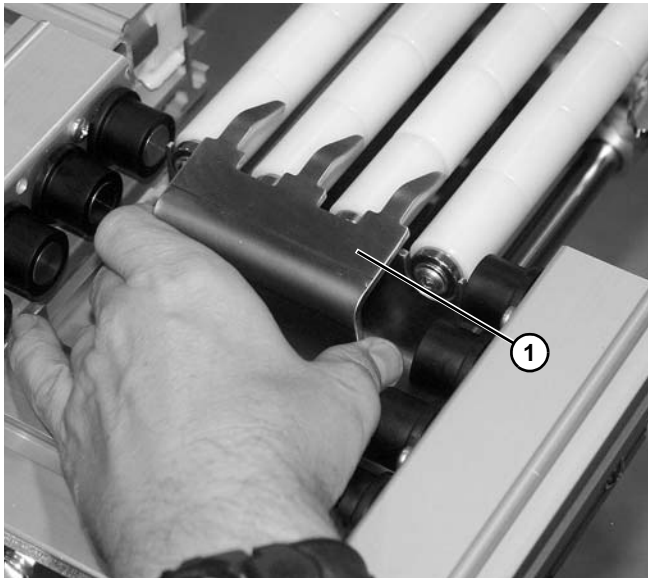

Figure 165
6. Remove plate (Figure 165, item 1) from assembly.